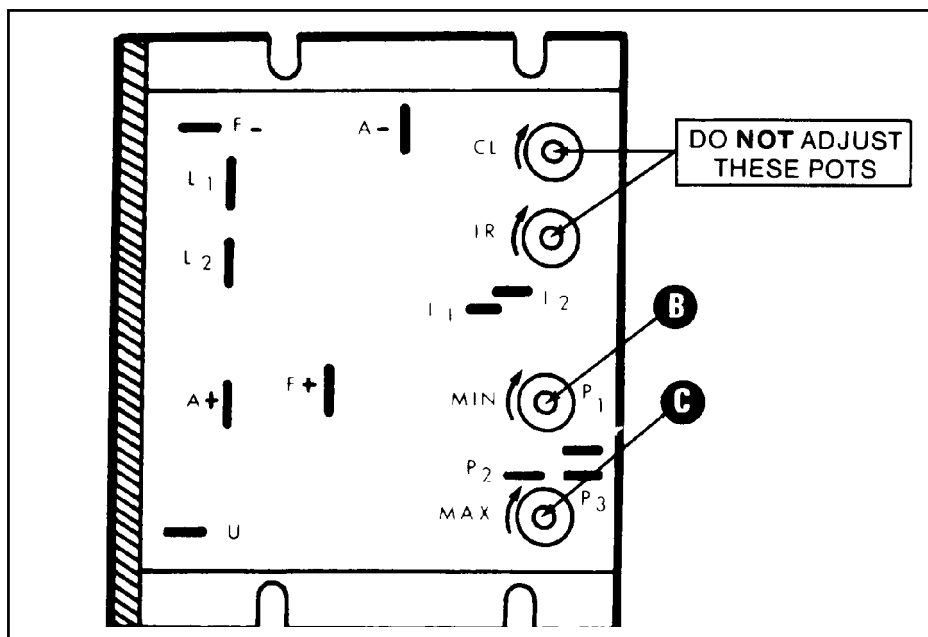

Figure 97 - Speed Control Board
If necessary, adjust MIN. Trim Pot (B) on the speed control board (see Figure 97). Turn the pot counterclockwise to slow the speed, or clockwise to raise speed.
- b. At position "100" the dampener motor should run the drive gear at 190 to 200 RPM. Adjust the MAX. trim pot (C) (Figure 97) if necessary.